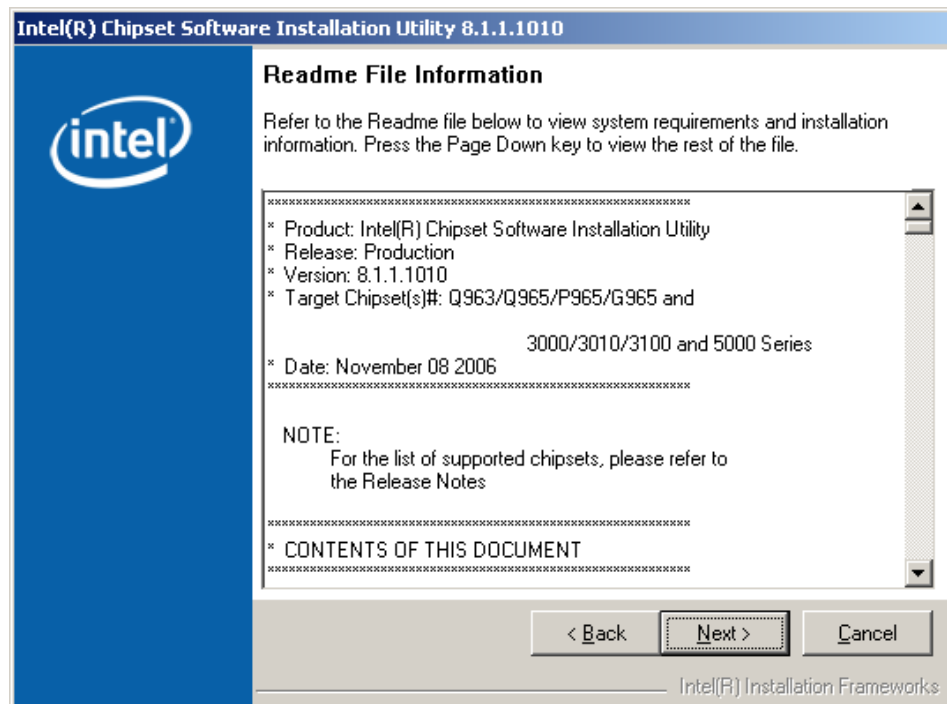

Figure 7-6: Chipset Driver Readme File Information
Step 8: The Readme file in **Figure 7-6** appears.
Step 9: Click **NEXT** in **Figure 7-6** to start the driver installation.